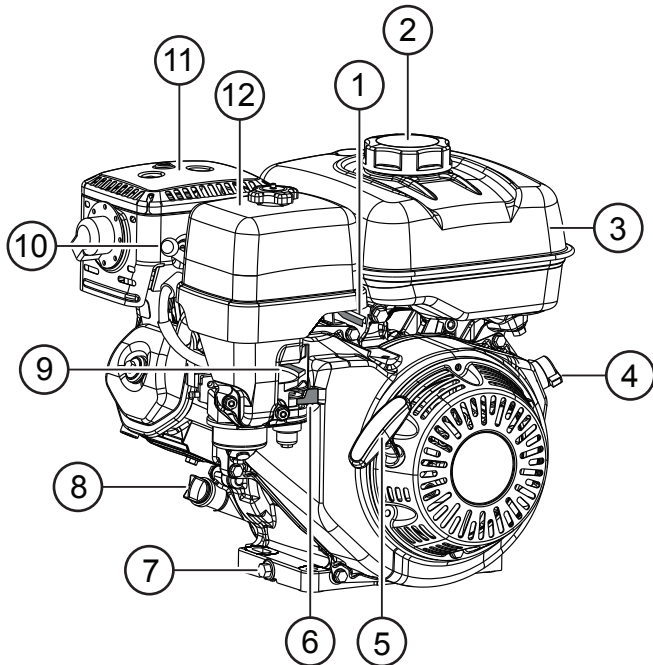

Figure 3. Honda Engine Components
8. **Blades (4)** — Versatile combination blades should take care of most troweling needs.
10. **Trowel Arms (4)** — Combination blades attach here. In addition, float discs can be attached to the trowel arms that will allow the trowel to “float” on wet concrete.
17. **Engine** — Honda gasoline engine. Refer to Table 2 for engine specifications and Figure 3 for engine components.
The Honda gasoline engine (Figure 3) must be checked for proper lubrication and filled with fuel prior to operation. Refer to the manufacturer's engine manual for detailed operation and service instructions.